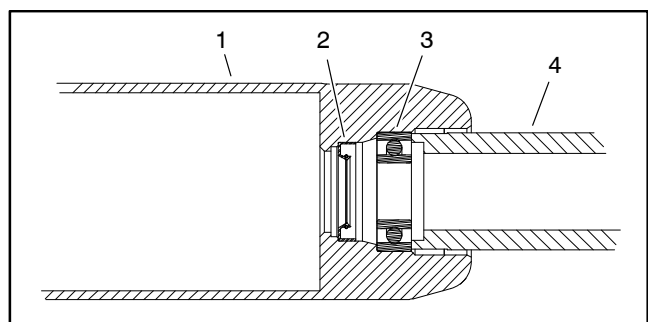

Figure 49
A. Position a new bearing into one end of roller tube. Use bearing/outer seal tool (see Special Tools) with a soft face hammer to fully seat bearing against roller shoulder (Fig. 49). After bearing installation, make sure that it rotates freely with no binding.